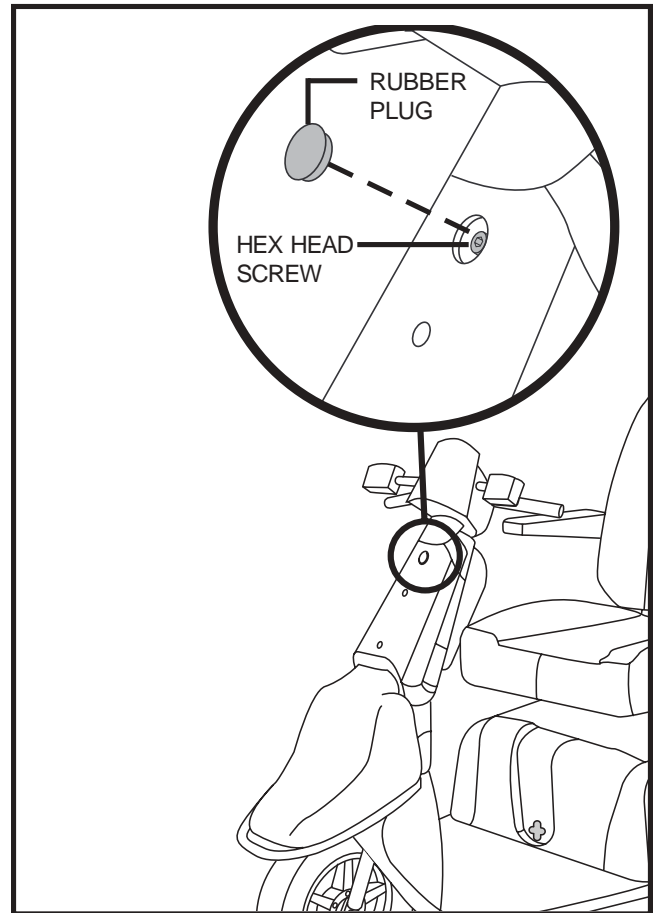

Figure 19. Tiller Height Adjustment
1. Remove the rubber plug from the front of the tiller. See figure 19.